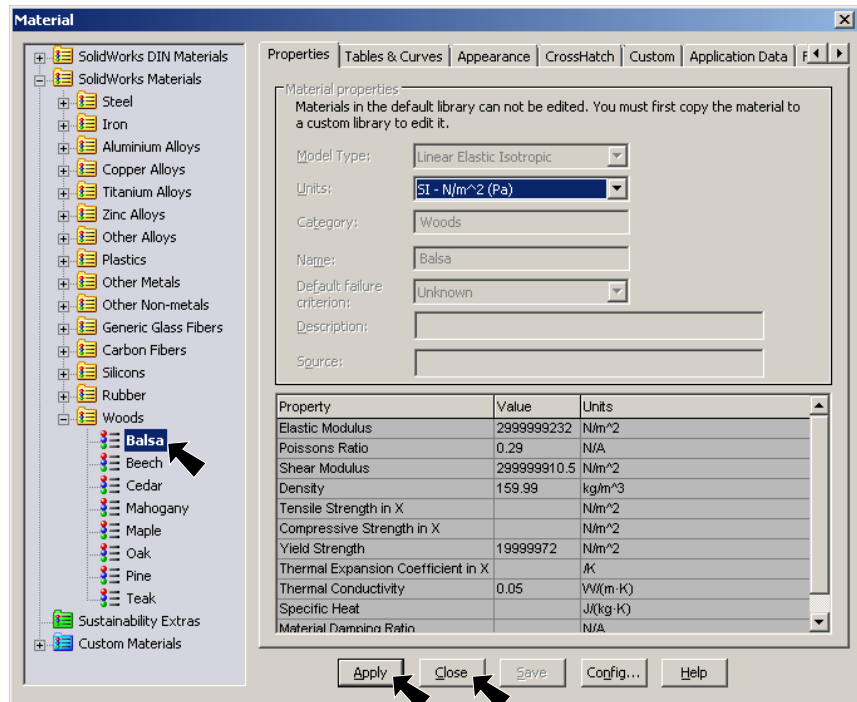
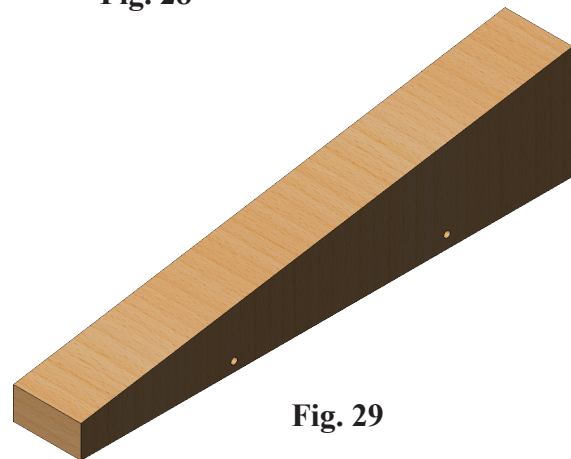

Fig. 28
Fig. 29
Step 2. Expand **Woods** (click the +) in the material tree and select **Balsa**, Fig. 28. Click **Apply** and **Close**, Fig. 29.